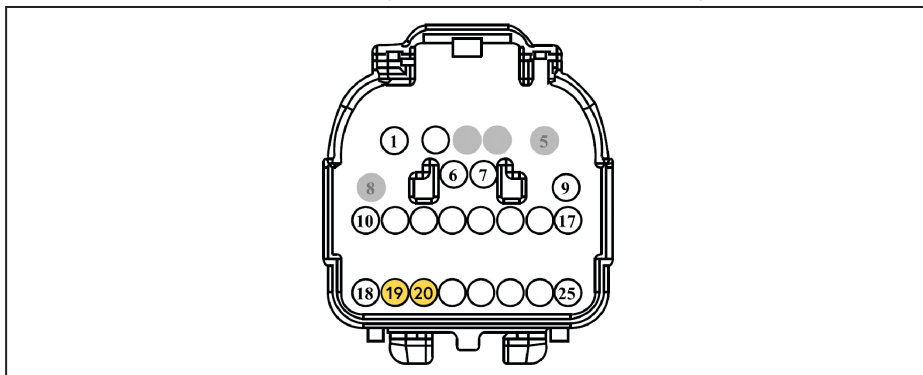

Figure 49 — C264 connector (male)
- ☐ Splice the blue wire running from the DTC to the wire at pin 19 (green wire with blue stripe at the time of writing) of the C264 connector (Figure 49).
- ☐ Splice the grey wire running from the DTC to the wire at pin 20 (white wire with green stripe at the time of writing) of the C264 connector (Figure 49).